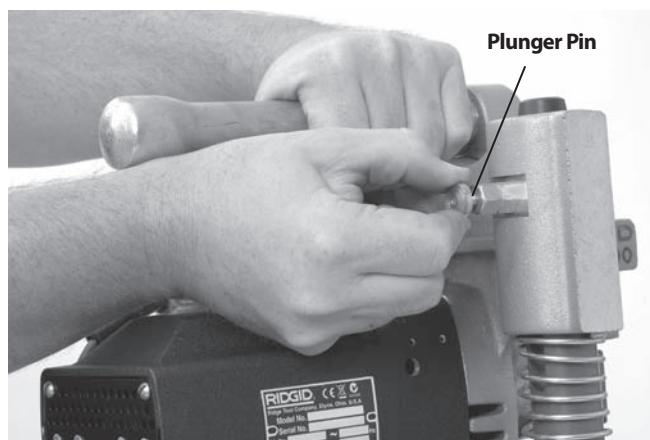

Figure 7 – Separating the Base and Motor Assemblies
- Broken, worn, missing, mis-aligned or binding parts. Make sure that the motor assembly moves smoothly and freely up and down the posts of the base assembly. Confirm that the chain and swivel handle move freely. On the HC-300, confirm that the plunger pin functions properly and retains the motor assembly to the base assembly (Figure 7).
- With the HC-300 Hole Cutting Tool on a stable, secure surface, pull the plunger on the back of the left post (Figure 7) and lift the motor assembly off of the base assembly.